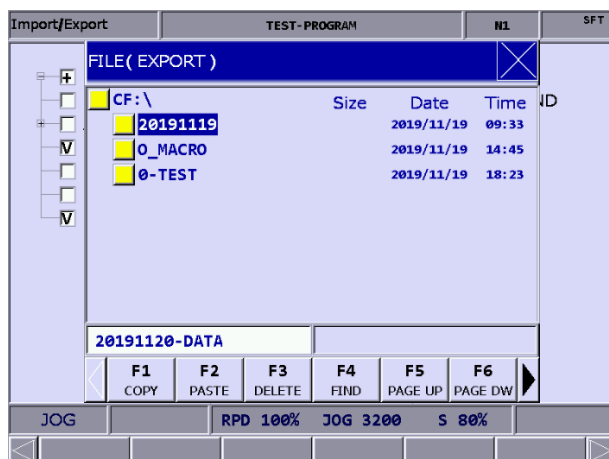

Figure 9.9.2
- (5) Press **EXPORT** and the file manager (FILE) window appears as shown in Figure 9.9.2. Press **↑** and **↓** to select the directory for saving the exported files, or directly enter the folder name and press **ENTER** to save the exported files to the specified folder.
- (6) Then, the screen displays a progress bar showing the exporting process until the exporting is finished.
- (7) If you want to save the exported file to a new created folder, name the folder, then press **FOLDER** to save the exported file in the folder, as shown in Figure 9.9.2.